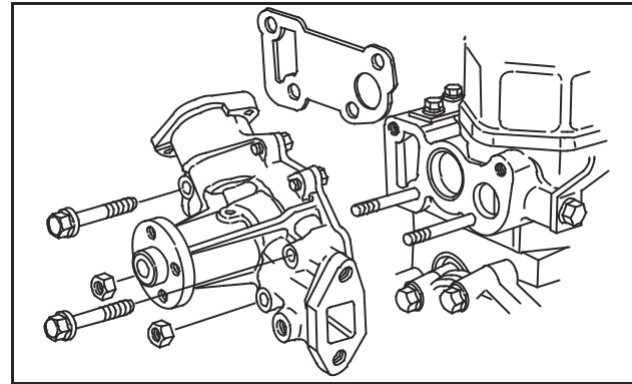

Fig. 10 – Installing Water Pump
1. Install water pump with new gasket, Fig. 10.